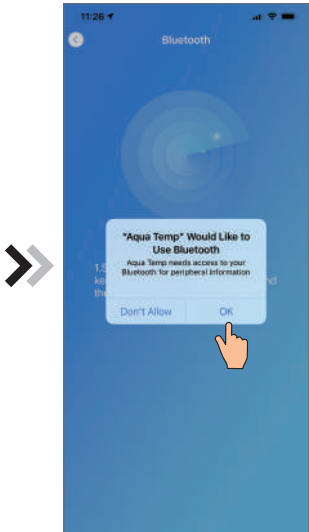

Fig.10 Searching device interface
- Click (15) to bond device (Fig. 10);